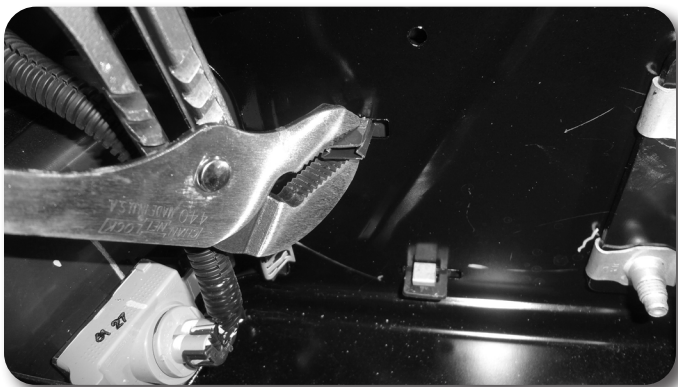

Figure 24
11. The black caps on the inside of the bumper will have to be removed by releasing the plastic clips. Figure 24